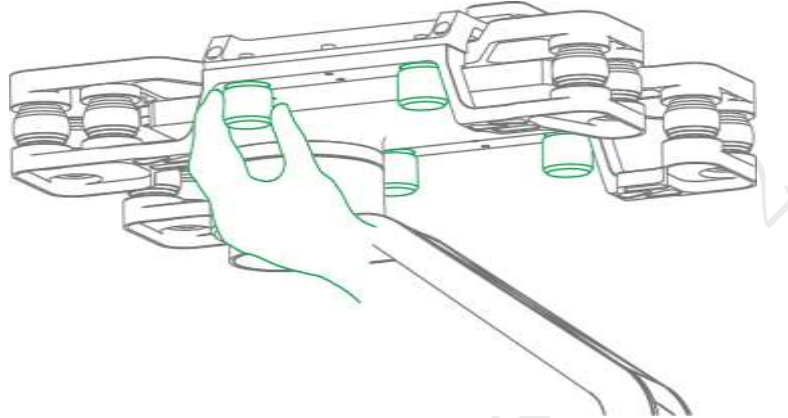

Figure 0-9
Step 1 Loosen 4 mounting screws, as shown in Figure 0-9.